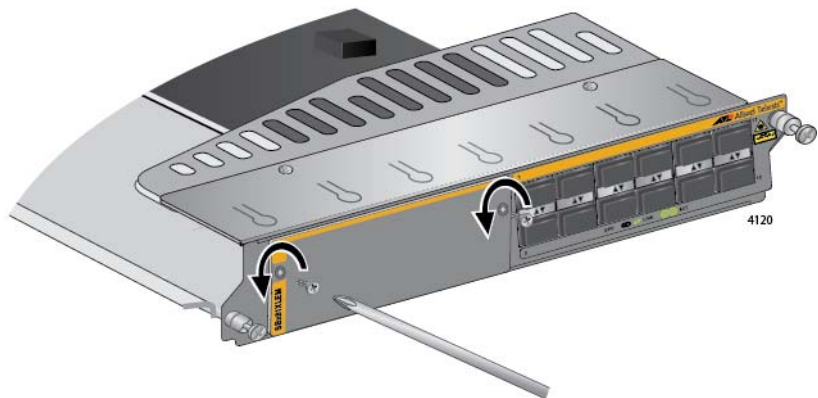

Figure 82. Removing the Screws on the Blank Slot Cover on the AT-SBx81XLEM Line Card
4. With a #2 Phillips-head screwdriver, remove the two screws that secure the blank slot cover to the line card. Refer to Figure 82.